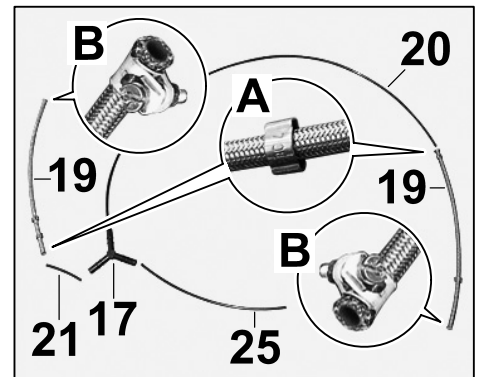
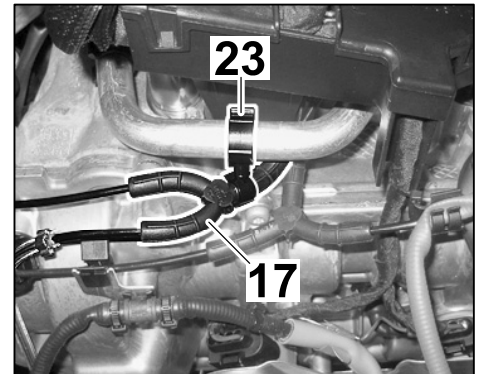

Figure 19
Figure 20
- 6.3.1 Fit vacuum line (60 mm) ⇒ *Figure 19 -21-* and vacuum line (860 mm) ⇒ *Figure 19 -20-* into the steel flexi-pipes ⇒ *Figure 19 -19-* and secure with a clamping sleeve ⇒ *Figure 20 -inset A-*.
- 6.3.2 Push the vacuum lines (60 mm, 230 mm, 860 mm) ⇒ *Figure 19 -21, 25, 20-* into the distributing piece ⇒ *Figure 19 -17-*.
- 6.3.3 Slide hose clamps ⇒ *Figure 20 -inset B-* onto the steel flexi-pipes.
- 6.4.2 Secure the distributing piece ⇒ *Figure 20 -17-* to the heater pipe with a holder ⇒ *Figure 20 -23-*.